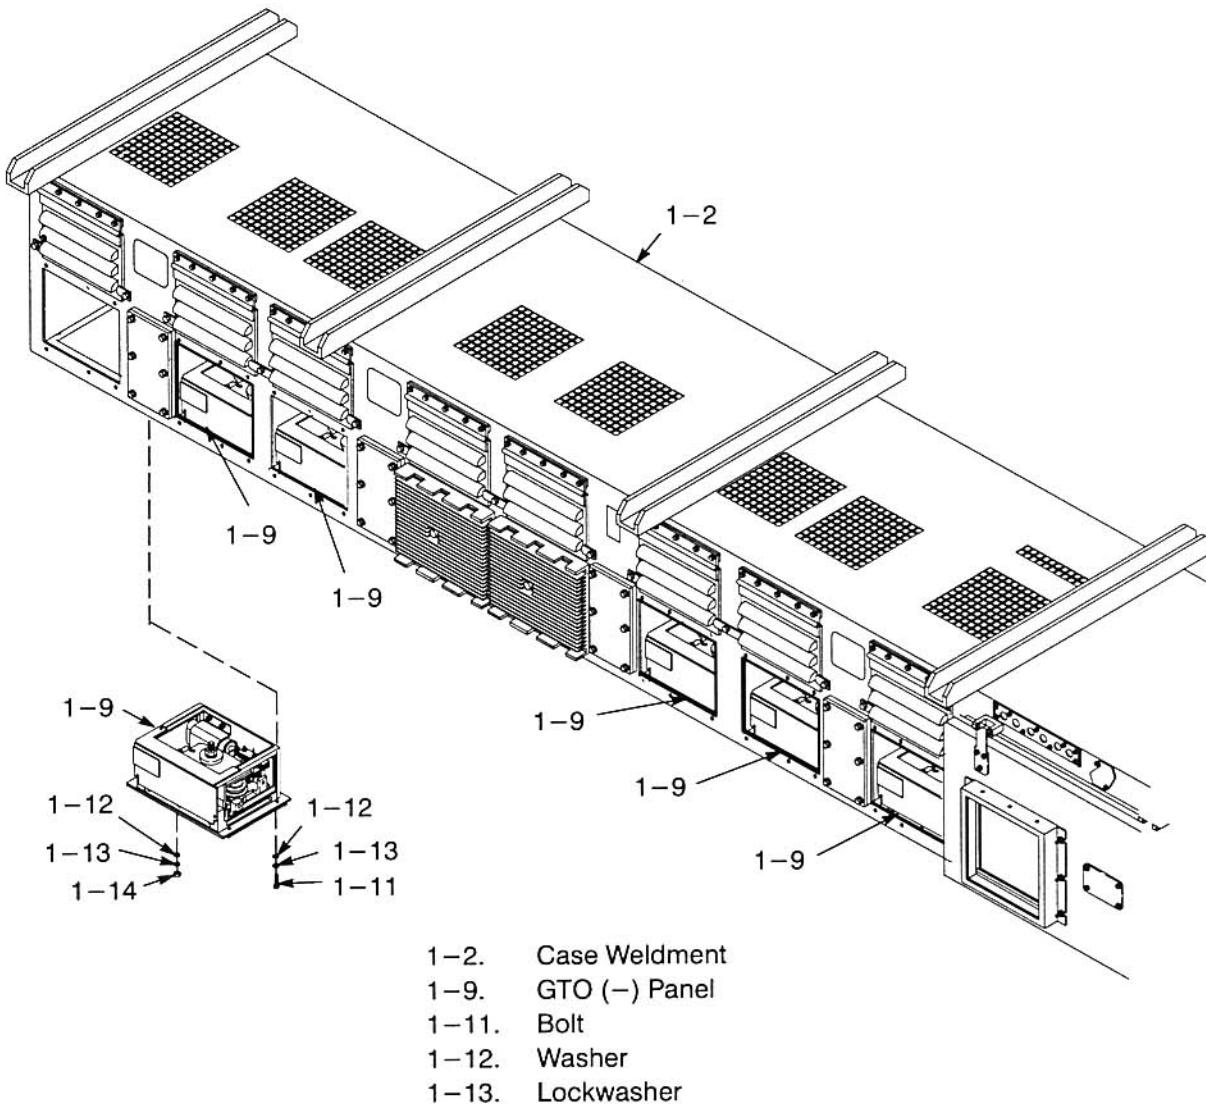

Figure 7-126 Remove/Install GTO (-) Phase Module
- b. Remove/install hardware (1-11, 1-12, 1-13, 1-14, Figure 7-126) which secures panel (1-9) to the case weldment (1-2). Torque hardware to 10–11 ft. lbs.